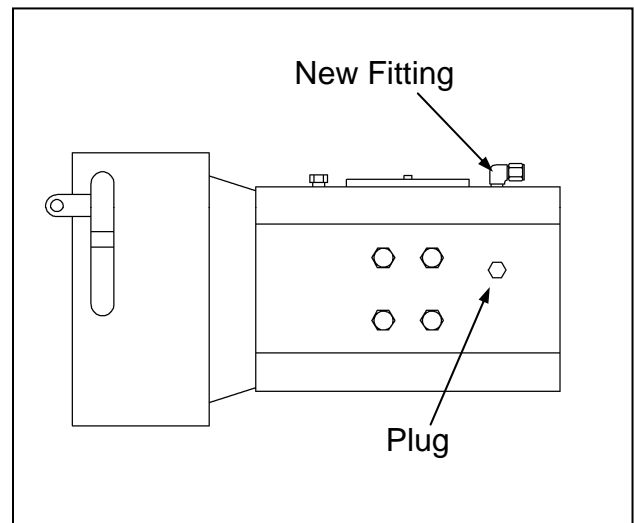
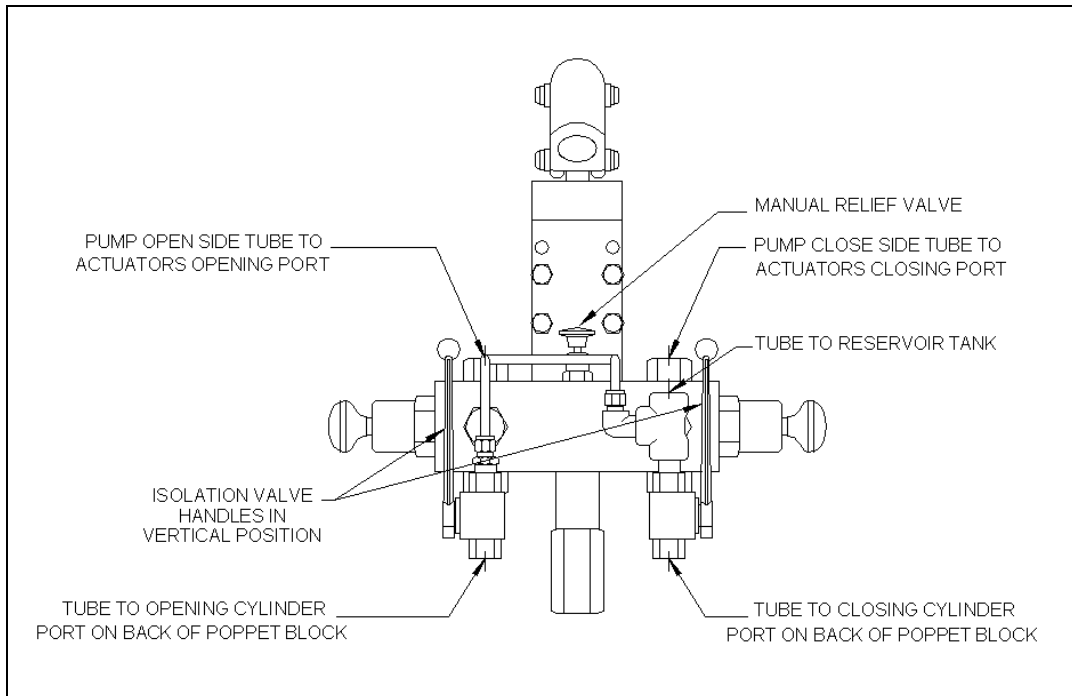

Figure 2: Old Hand Pump Removed
Figure 4: Hand Pump Piping
8. Run tubing from the bottom of the isolation valves to the cylinder ports in the back of the poppet block control. (See Figure 4) Right isolation valve is CLOSE and the left isolation valve is OPEN (as you are facing the new hand pump).
9. Run tubing from the discharge ports located on top of the hand pump valve body. (See Figure 4) The right side of the pump runs to the port on the right in the upper head of the actuator. The left side of the pump runs to the port on the left in the upper head of the actuator. Make sure you are using the ports in the upper head closest to hand pump, not the ones on the far side. (See Figure 2)
10. Run tubing from the open port in the tee to the reservoir tank. Tee is shown above the right hand isolation valve in Figure 4. It may be above either isolation valve.
12. To manually stroke the actuator, either open or closed, place the isolation valve handles in the horizontal position (see Figure 4) and select the appropriate knob on the selector valve located on the hand pump. This knob is selected by pressing inward toward the pump center.
18. Check to see the isolation valve handles are in the vertical position, as shown in Figure 4. Use the manual handles on the poppet block control to open and close the actuator working the air out of the system.